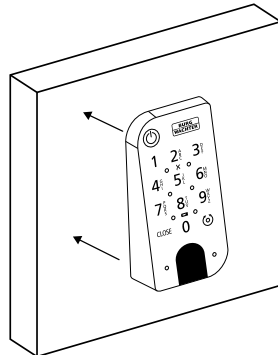

Fig. 8
- 3 Mount the keypad on the wall in the desired position (Fig. 8).